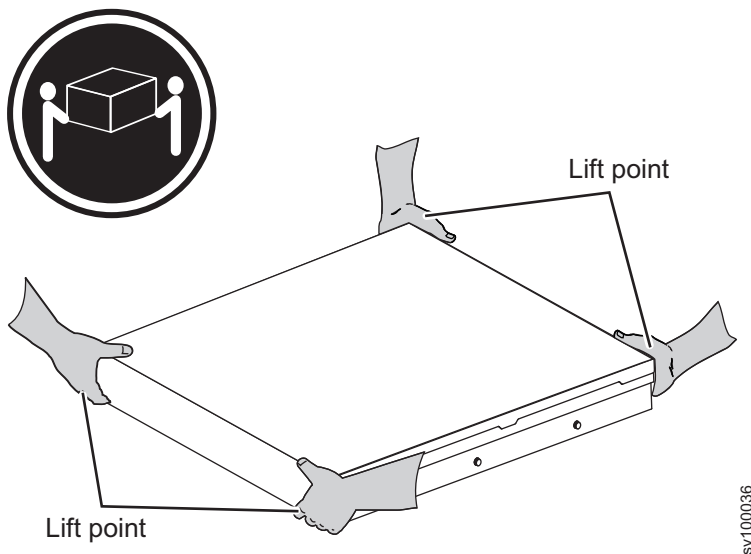

Figure 31. Lifting the 2145-SV1 node from the rack
To remove the SAN Volume Controller 2145-SV1 node from the rack, complete these steps. Ensure that you have two people when you lift the server; position their hands as shown in Figure 31 on page 39.
5. Lift the node, as shown in Figure 31, and place it on a sturdy surface.